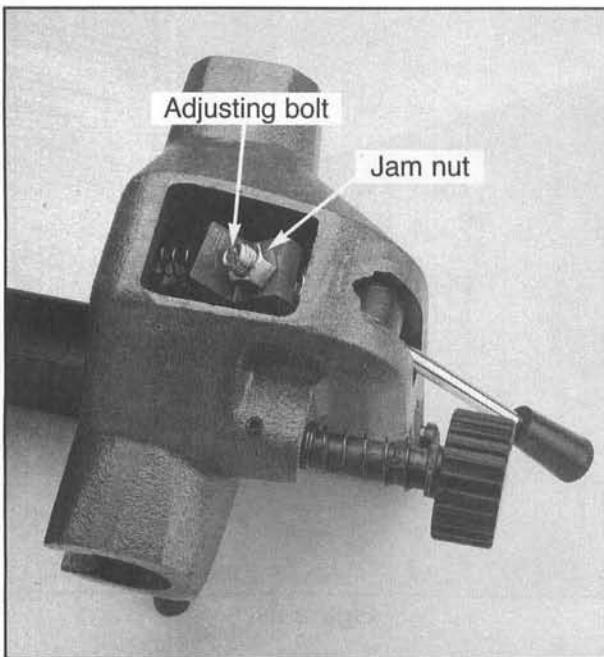

Figure 25.
1. First, make sure the front clamp is engaging the front rail with the lock handle at one half its throw. If the front clamp requires adjustment, loosen the check nut. **Figure 25.** Turn the adjusting bolt in if the front clamp is too far from the rail, out if it is too close.